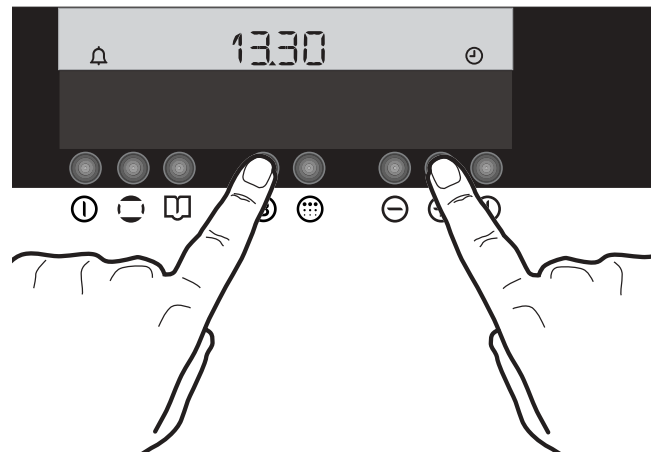

Fig. 20
1. Press button **B** and **+** at the same time for approximately 2 seconds (Fig. 20). The Electronic Control beeps once.